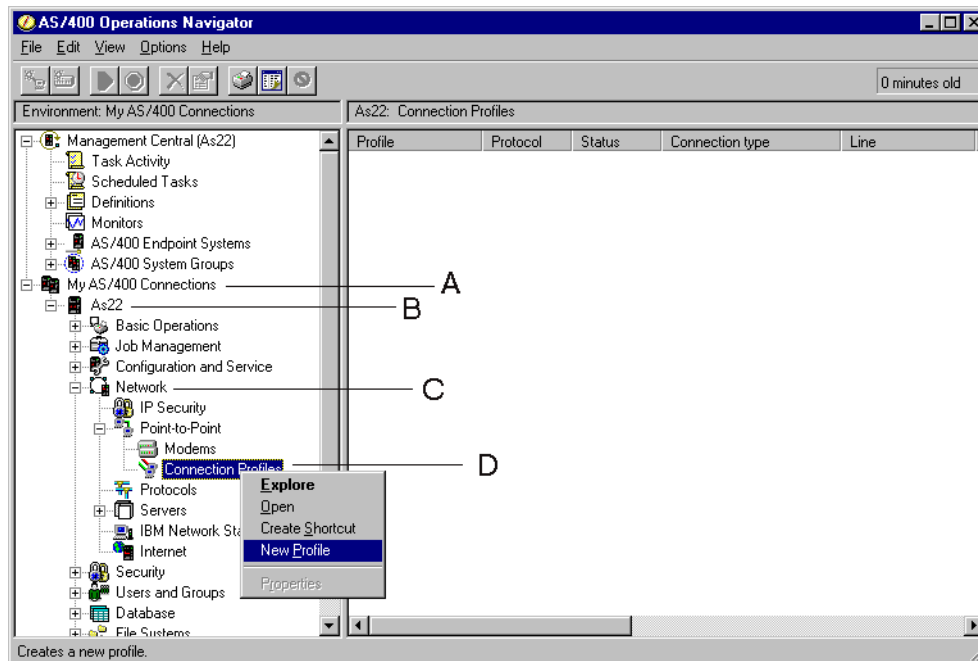

Figure 186. Creating a new PPP connection profile on AS22
1. Start Operations Navigator by clicking **Start->Programs->IBM AS400 Client Access->AS/400 Operations Navigator**. The **AS/400 Operations Navigator** window appears (Figure 186 on page 216).
2. Double-click on the My AS/400 Connection icon (A).
3. Double-click the system icon (B) for the AS/400 system that you are configuring. The system components appear.
4. Double-click the **Network** icon (C). The network components appear.
5. Double-click the **Point-to-Point** icon (D).
1. Start Operations Navigator by clicking **Start->Programs->IBM AS400 Client Access->AS/400 Operations Navigator**. The AS/400 Operations Navigator window appears (Figure 186 on page 216).